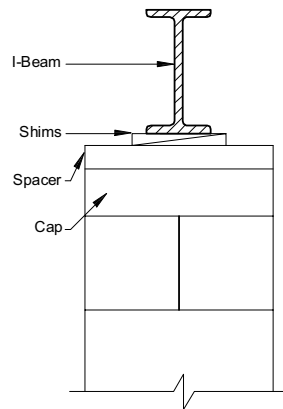

Figure 19. Correct shim placement
- Install shims.** Use shims to level the home and fill any gaps between the base of the I-beam and the top of the pier cap. Always use shims in pairs (**Figure 19**). Drive them in tightly so they do not occupy more than one inch of vertical space. When the space to be shimmed is greater than one inch and less than the minimum thickness of available caps or concrete blocks, use hardwood dimensional lumber (two inches maximum thickness) or 2" or 4" thick concrete block. For split caps, install shims and dimensional lumber/blocks over each individual cap.